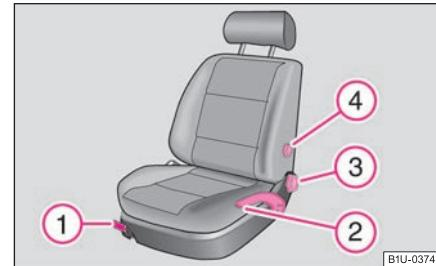

Fig. 54 Controls at seat
- Pull the lever ① ⇒ fig. 54 up and push the seat into the desired position.
- Release the lever ① and push the seat further until the lock is heard to engage.
- Relieve any pressure on the seat backrest (do not lean on it) and turn the handwheel ③ ⇒ fig. 54 to adjust the desired angle of the backrest.